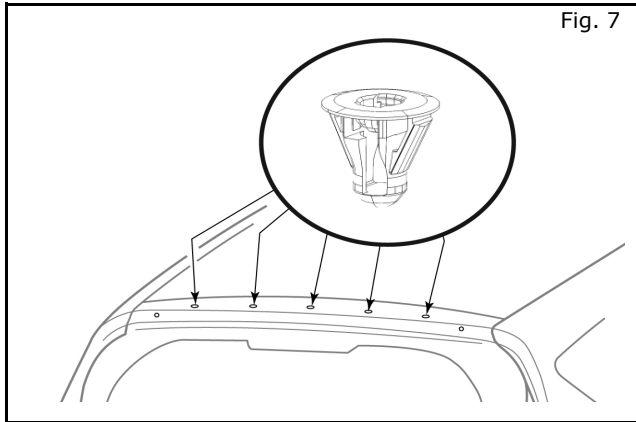

Fig. 7
- c) Install the 5 plastic clips into the liftgate in the 13mm holes, 5 places. (Fig. 7)